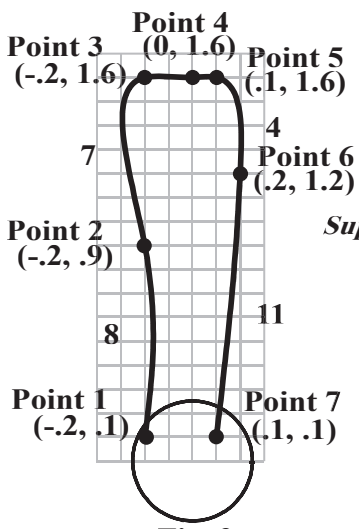

Fig. 9
Step 6. Click the 7 points in **Fig. 9**. Start with **(.1, .1)** up to **(.2, 1.2)** up higher to **(.1, 1.6)** across to **(.0, 1.6)** across again to **(-.2, 1.6)** down to **(-.2, .9)** finish with **(-.2, .1)**. Use the AutoCursor ribbon bar to view the coordinates. Or key-in the coordinates and press ENTER for Z.